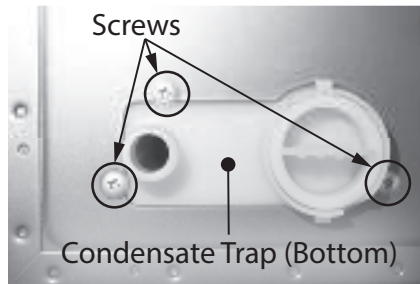

Figure 240 - Location of condensate trap screws.
- 21** Locate the three (3) screws at the back left corner of the cabinet that secure the condensate trap. See Figure 240. Use a Phillips screwdriver to remove the screws. Place screws aside in a safe place for reinstallation.